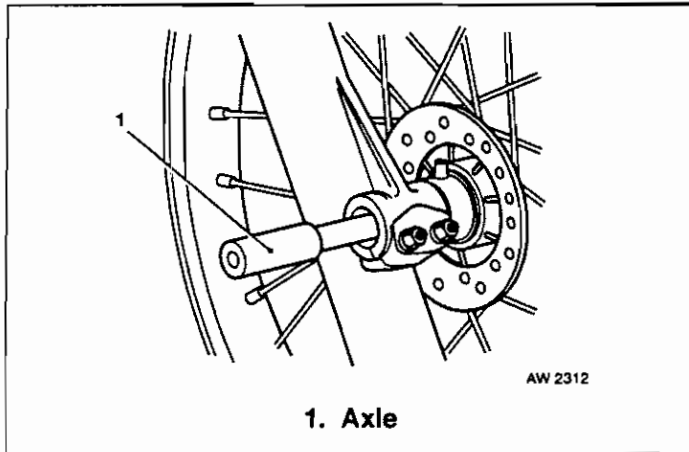

Fig 11.3 Remove Front Axle
c. Fig 11.3 refers. Support wheel by hand and remove front axle.